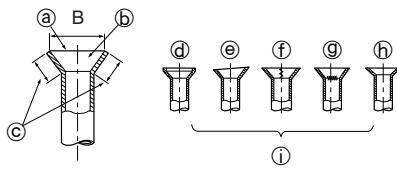
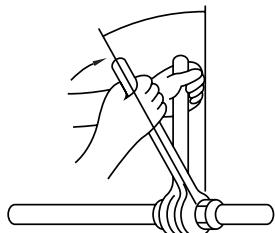

Fig. 5-7
Fig. 5-8
5.2.5. Check (Fig. 5-7)
- ④ Smooth all around
- ⑤ Inside is shining without any scratches
- ⑥ Even length all around
- ⑦ Too much
- ⑧ Tilted
- ⑨ Scratch on flared plane
- ⑩ Cracked
- ⑪ Uneven
- ⑫ Bad examples
- Apply a thin coat of refrigeration oil on the seat surface of pipe. (Fig. 5-8)